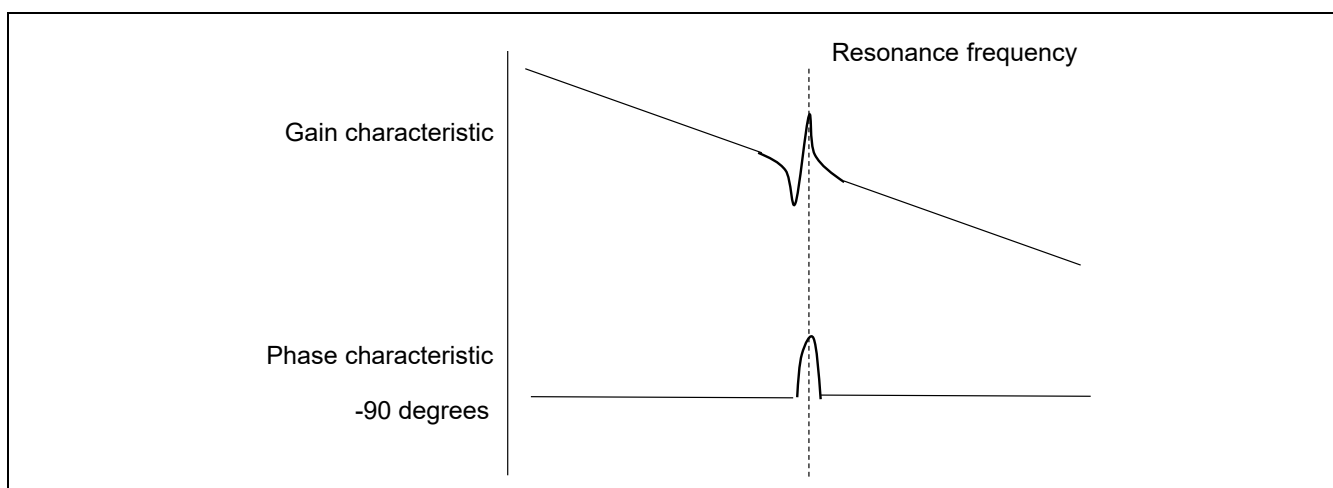
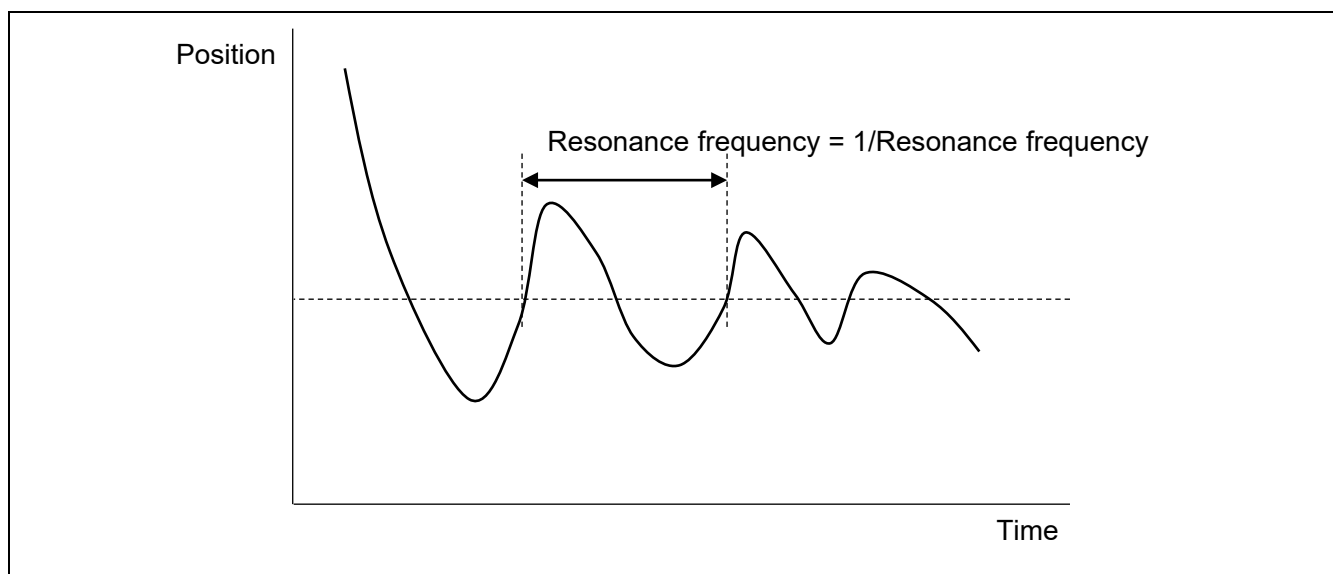

Figure 3-1 Confirmation of Resonance Frequency by FFT Analyzer
Figure 3-2 Confirmation of Resonance Frequency by Monitoring the Speed Signal
1. Drive the motor by sending a desired position reference from the RMW, measure the frequency characteristics between the speed instruction at that time and the actual speed by using an FFT analyzer, and identify the resonance frequency (see Figure 3-1). If a resonance peak and an antiresonance peak are present, record the frequency of each peak. If multiple resonance points are visible, record the resonance frequencies in the same manner. Note that if you do not have an FFT analyzer when an appropriate position reference value is given, monitor the feedback value of the position signal in the microcontroller by using a D/A converter or an optional external sensor (e.g., vibration sensor) and estimate the resonance frequency from the resonance waveform (see Figure 3-2).